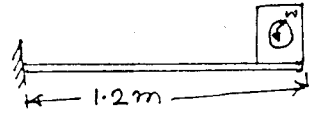

Fig.4(a)
- (b) Determine the influence coefficients of the system shown in fig 4, and thus find fundamental frequency by iteration method. (12 Marks)
- 4 a. A 40 kg fan has a rotating un-balance of magnitude 0.1 kg-m. The fan is mounted on a beam as shown in Fig.4(a). Find the steady state amplitude of the fan when it operates at 1000 rpm. The beam is specially treated to add viscous damping of $\xi = 0.0617$.